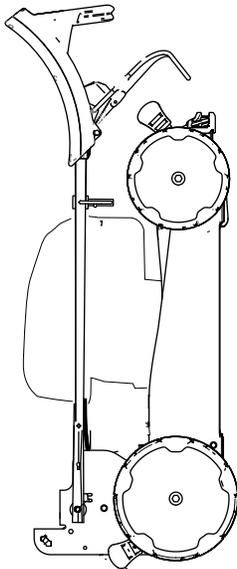

Figure 20
6. Lift the front of the machine by the handle and move it into a storage space (Figure 20).